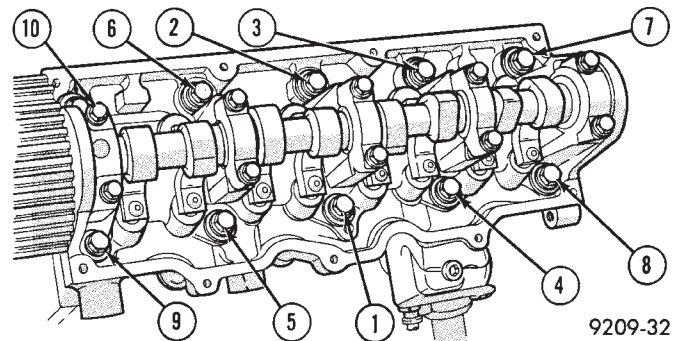

Fig. 16 Cylinder Head Tightening Sequence
- (1) Position new head gasket on the cylinder block.
- (2) Tighten the cylinder head bolts in the sequence shown in (Fig. 16). Using the 4 step torque turn method, tighten according to the following values: